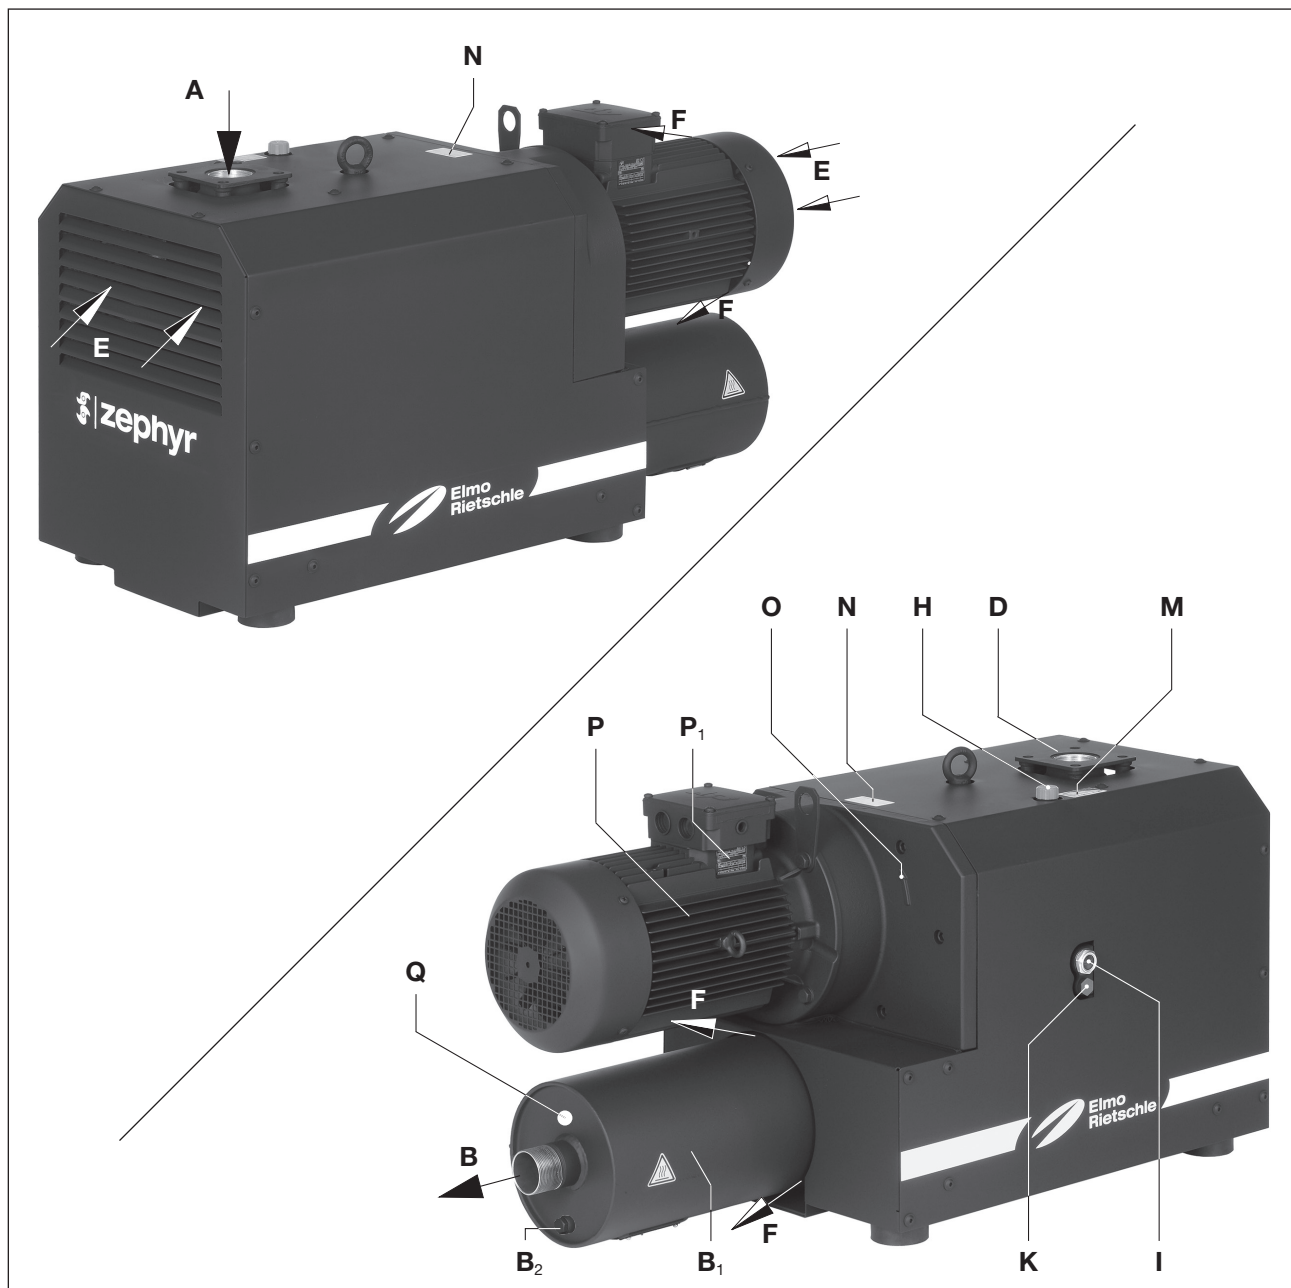

Fig. 2 Vacuum pump C-VLR 301
The C-VLR 301 model has a connection flange on the inlet side and an exhaust silencer on the pressure side (Fig. 2/B₁). The air sucked in is cleaned by a micro-filter. An integral non-return valve prevents the evacuated system from being ventilated after the pump has stopped.
The gearbox and the compression chamber are separated from each other by special seals. The gearbox is sealed from the outside with shaft seals and O rings, the compressor chamber with piston rings. The VLR 301 is enclosed in an insulating hood. In order to dissipate compression heat, the cooling air is sucked through between the machine and the hood using a drum fan that sucks in the fresh cooling air (Fig. 2/E) and discharges the heated air out of the cooling air outlet (Fig. 2/F).
The oil filling point (Fig. 2/H), oil sight glass (Fig. 2/I) and the oil outlets (Fig. 2/K) must be easily accessible. The cooling air inlets (Fig. 2/E) and the cooling air outlets (Fig. 2/F) must be at least 30 cm away from adjacent walls. Cooling air coming out must not be sucked in again. For maintenance work there must be a minimum of 40 cm in front of the suction flange (Fig. 2/D).
- a) Vacuum connection at (Fig. 2/A).
- c) The extracted air can be discharged through the exhaust silencer (Fig. 2/B) or conducted away via a pipe.
- a) Fill the lubricating oil (for suitable types see "Maintenance") for the gear wheels and oil filling point (Fig. 2/H) up to the middle of the sight glasses (Fig. 2/I).
- a) The motor's electrical data is given on the data plate (Fig. 2/N) or on the motor data plate (Fig. 2/P_i). The motors comply with DIN EN 60034 and are in protection class IP 55 and insulation class F. The appropriate connection diagram is located in the motor's terminal box (not for the plug connection version). The motor data must be compared with the data of the existing mains network (current type, voltage, network frequency, permitted current value).
When the machine is at operating temperature the surface temperatures on the components (Fig. 2/ Q) may go above 70°C. You must avoid touching the hot surfaces (marked with warning plates).